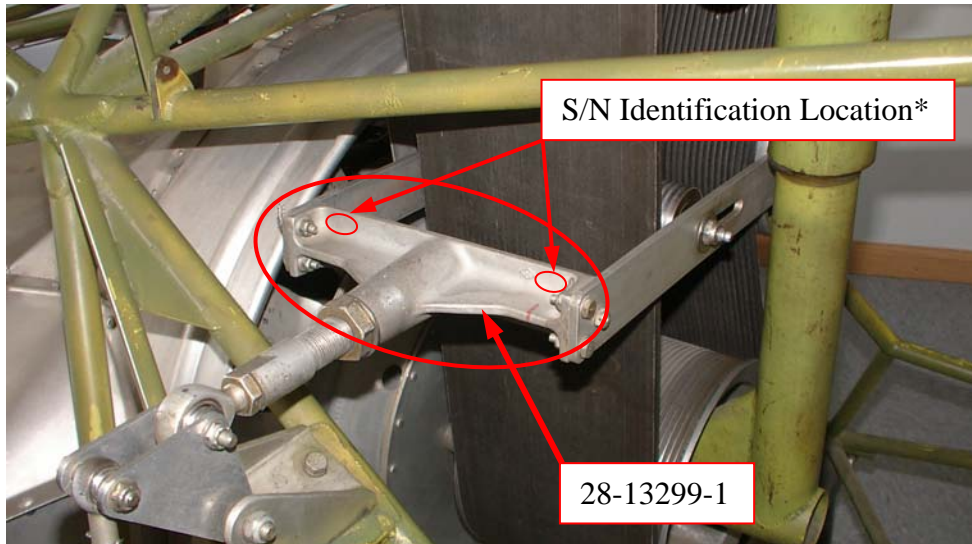
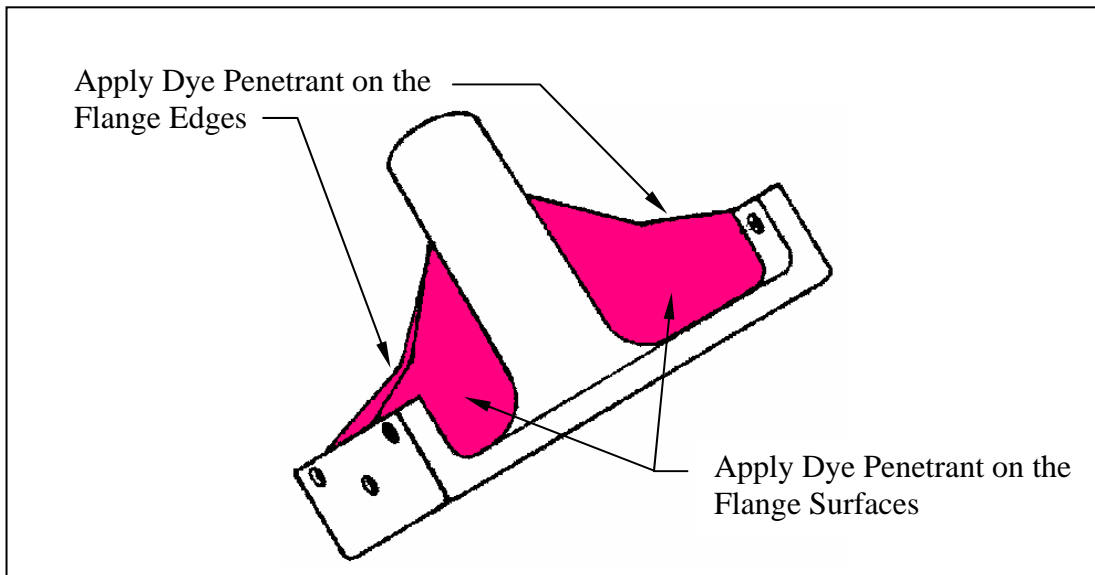

Figure 1 – Idler Yoke, P/N 28-13299-1
Figure 2 – Idler Yoke Dye Penetrant Inspection Areas
- A. Within five hours, locate the idler yoke serial number (S/N) engraved on the casting. Refer to Figure 1 for locating the serial number.
- A. Within the next 5 hours time in service, inspect the idler yoke for cracks (reference Figure 1 and Figure 2) using dye penetrant method. Follow the dye penetrant manufacturer's instructions.